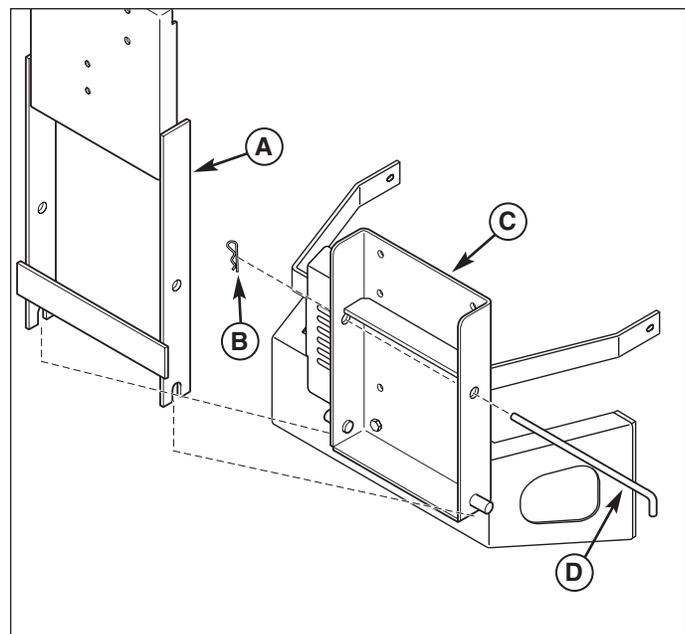

Figure 10. Install Back Plate (Flat Style Bumper shown)
4. **Warning: Back plate (A) will fall when rod (D) is removed.** Remove the hair pin (B, Figure 10) and rod (D) while holding back plate (A).
5. Lift back plate & support assembly (A, Figure 10) off hitch plate (D)